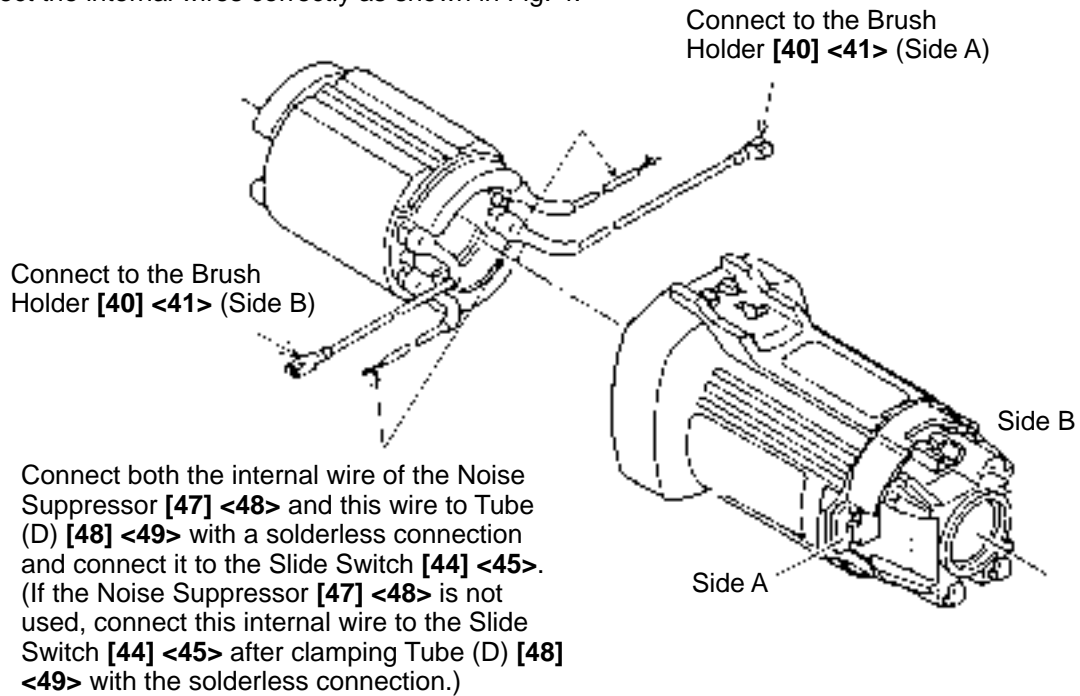

Fig. 3
(4) Connect the four internal wires of Stator (A) [12] <12> with the parts indicated in Fig. 3.